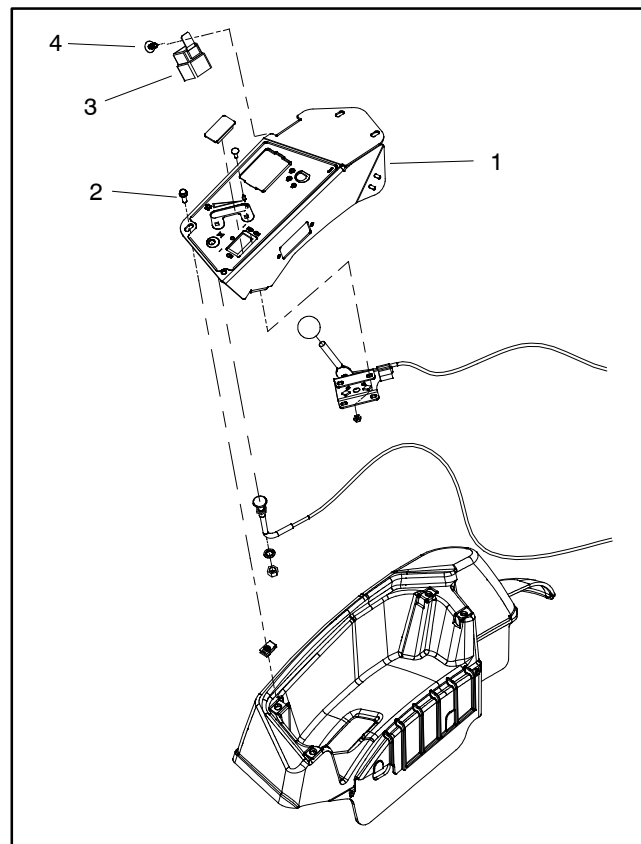

Figure 20
Two (2) relays are used on the Sand Pro machine: start relay and charge relay. The relays are attached to the underside of the control panel next to the operator seat (Fig. 20). The relays are identical and are identified by a tag on the wire harness relay connector.
2. Remove four (4) screws that secure control panel to right side console (Fig. 20). Carefully raise control panel to gain access to relays.
10. Carefully place control panel to right side console and secure with four (4) screws.